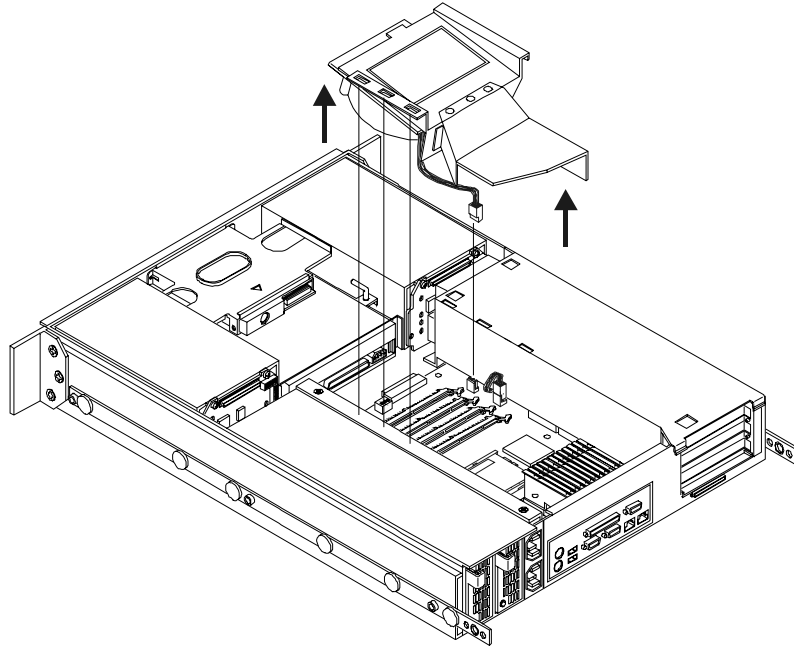

Figure 2-4. Removing the Air Flow Guide
1. Unplug the air flow guide fan cable from the system board. See Figure 2-4.
2. Lift up the air flow guide to remove it. See Figure 2-4.